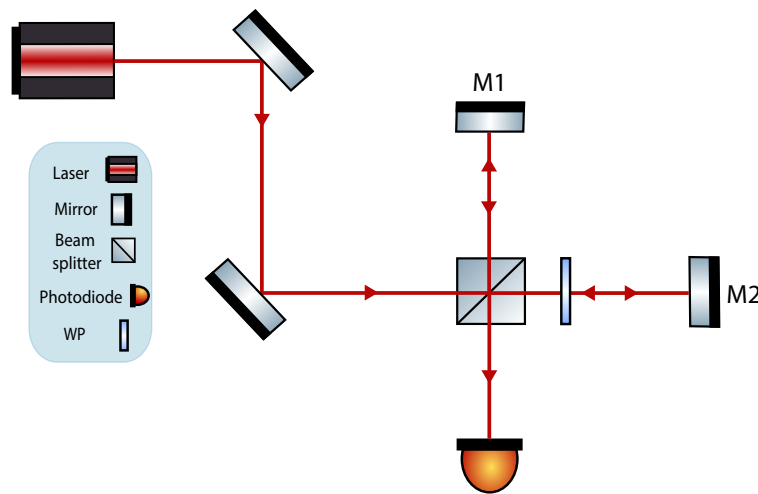

Figure 2: Schematic of a Michelson interferometer with a waveplate in one arm.
- e) How does the interference pattern depend on the difference in polarization between the light in the two arms of the interferometer? Discuss with your group what you expect to happen for various polarization differences. Set up the interferometer to have the path length difference that gave the largest fringe contrast. Add a waveplate in a rotation mount into one arm of the interferometer, see Figure 2. (Which waveplate should you use?) Measure how the fringe contrast depends on the angle of the waveplate's slow axis. Should you add a linear polarizer before (or after) the interferometer to make the effect more extreme?